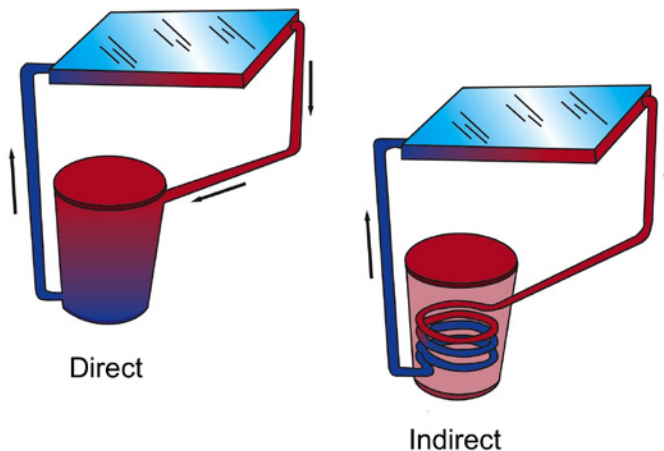

Figure 1. Direct vs Indirect System
- Indirect: A secondary fluid like water or antifreeze flows between the tank and collectors where it is heated by the sun. The heat in the fluid is transferred to potable water through a heat exchanger (Figure 1).